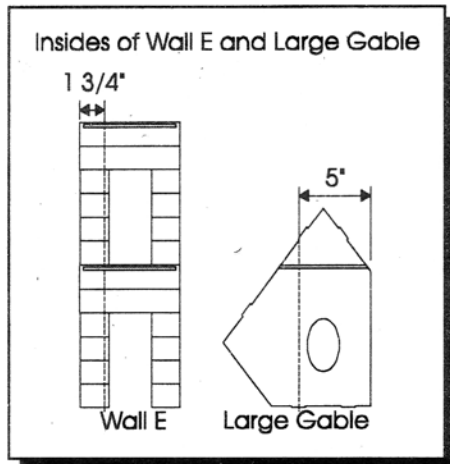

Figure 4
2. Wall E and the Large Gable are going to be split by room partitions on the 1st, 2nd, and 3rd floor creating six separate rooms. If you are going to wallpaper each room differently you must determine where the junction of the different paper types will occur. To determine this draw lines as indicated in Figure 4.